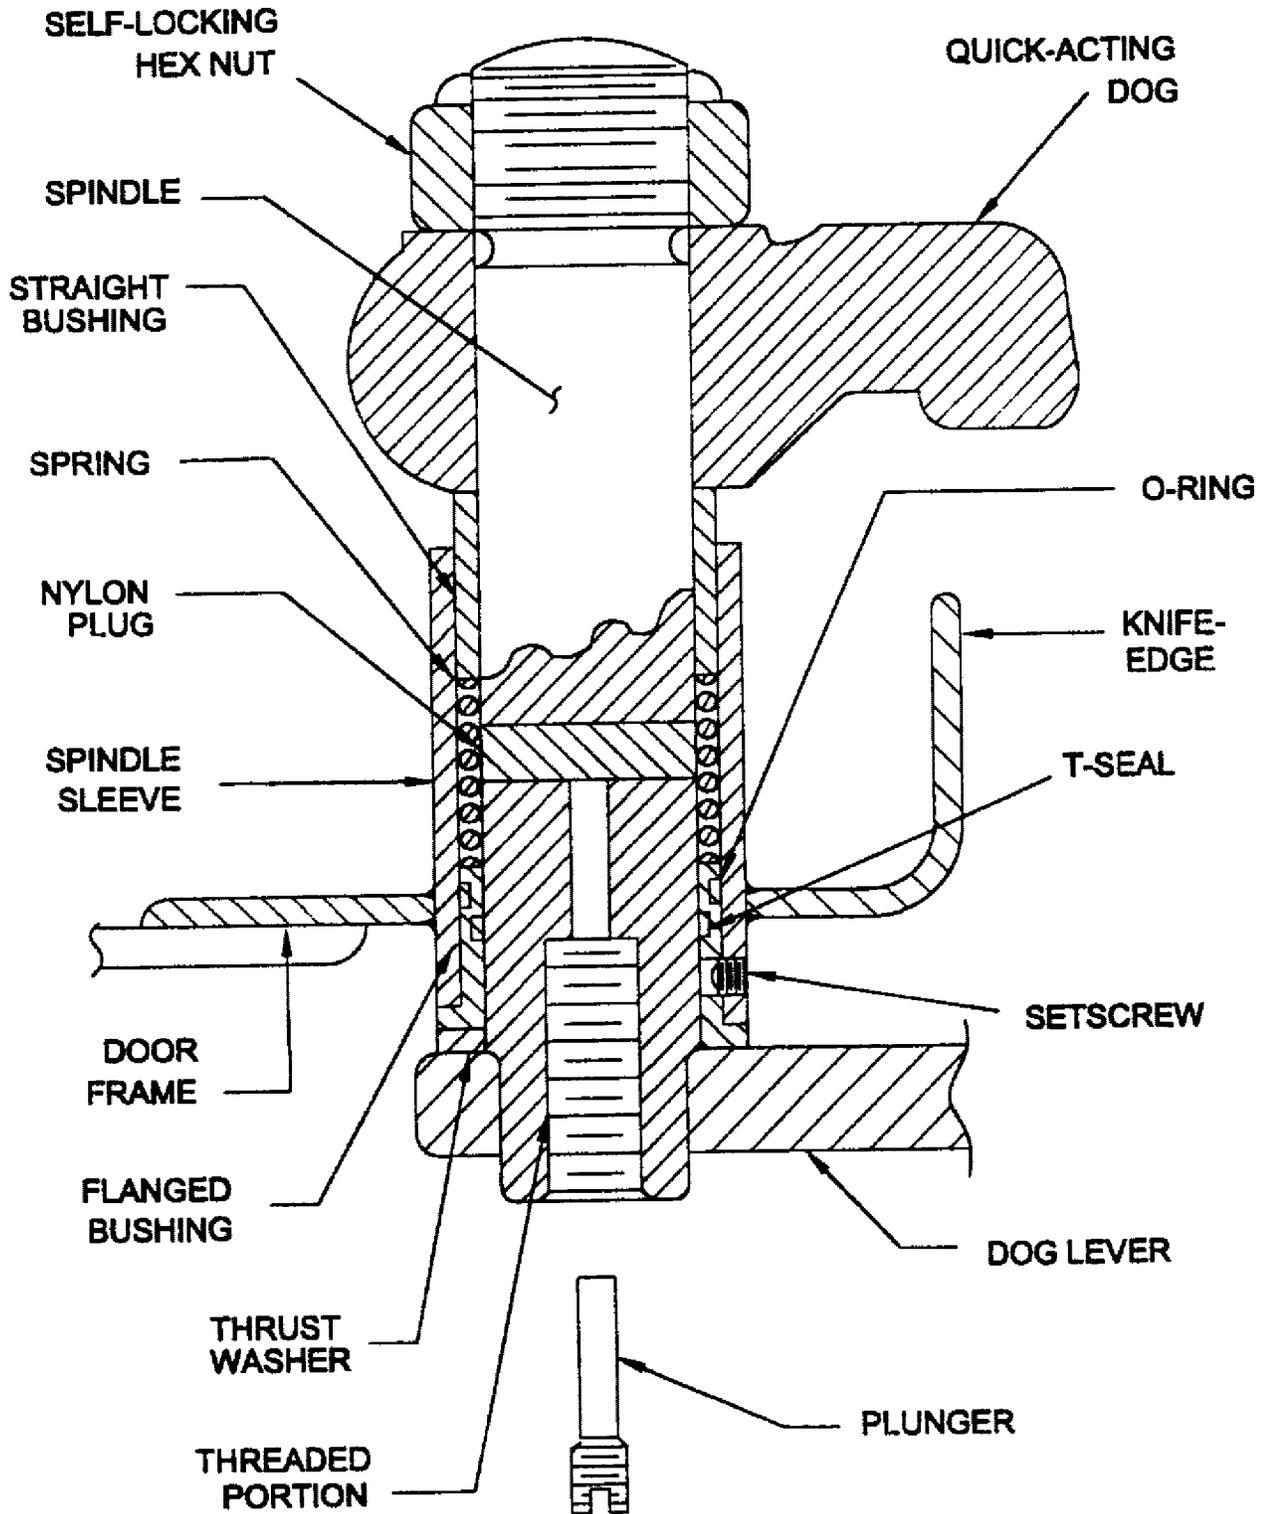

Figure 1-18. Quick-Acting Door Dog Assembly (Cross Section View) Modified by MACHALT 167-31004 (ECP-444)
- a. MACHALT 167-31004 (ECP-444) removes the Oilite bronze or CRES flanged and straight bushings, jamnuts, helical spring, and MIL-R-900 gaskets, and installs self-locking nuts, thrust washers, self-lubricated flanged and straight bushings, and silicone rubber gaskets in weatherdeck quick-acting watertight/airtight doors. (See figure 1-18.)